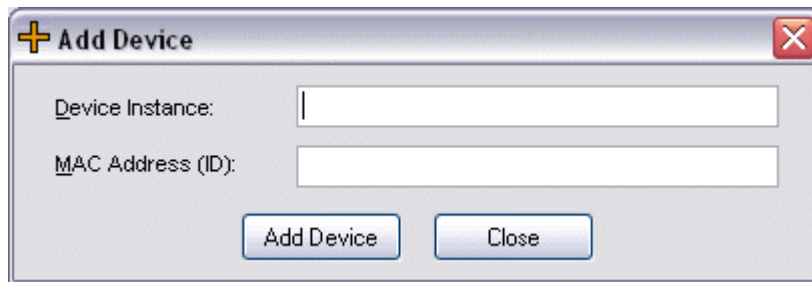

Figure 2-18: Add Device Window
1. Click on **Utilities** on the **NB-Pro** menu bar then select **Add Device** from the drop-down menu. The **Add Device** window, shown in Figure 2-18, will appear.